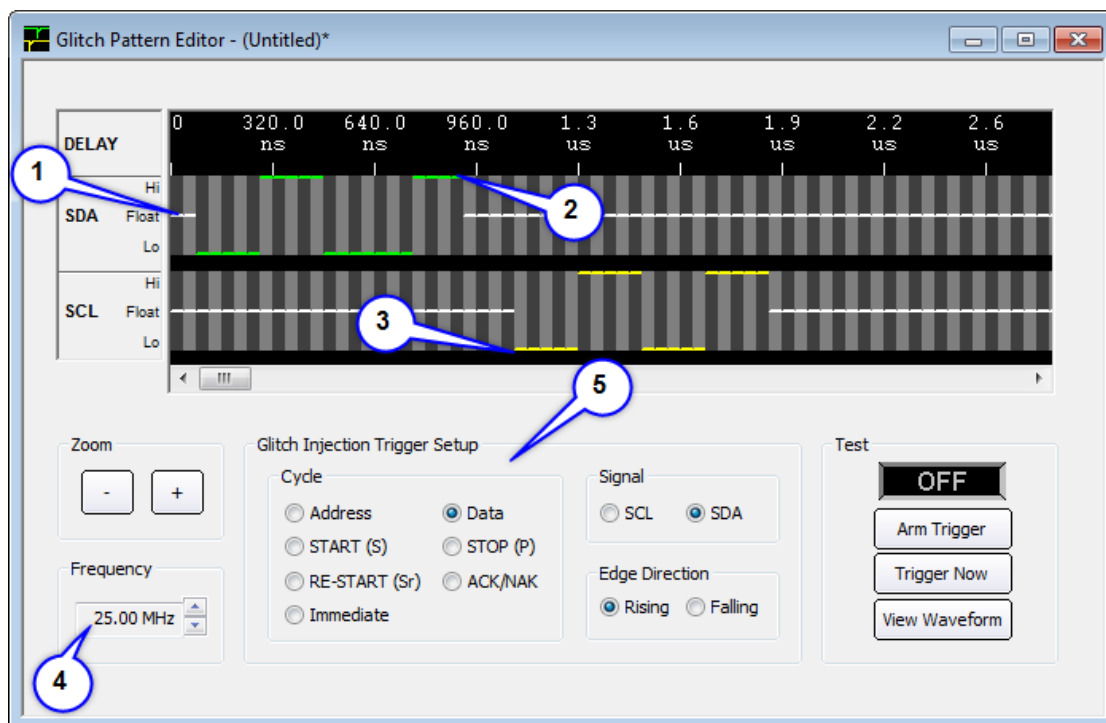

Figure 217. Glitch Pattern Editor Window
Figure 217 shows the Glitch Pattern Editor window, which can be opened by selecting the **Glitch Pattern Editor** menu item from the **Tools** menu. The alternating background colors of light and dark gray represent the clock cycles (one clock per color stripe). The time indicators shown at the top are relative to the start of a glitch pattern, beginning a short delay after the trigger event. The configurable clock frequency is shown at the bottom left corner of the window (4). For each clock cycle, you can select high, low, or floating levels for the SDA and SCL signals. The high level is shown as green or yellow lines at the upper part of each signal row (2). The low level is shown as green or yellow lines at the lower part (3). The floating level is indicated with white lines in the middle of the signal rows (1). To change these levels for each clock cycle, click on the desired location on the graph using your mouse pointer. You may also drag the mouse while holding down the left mouse button to set levels for multiple clocks.